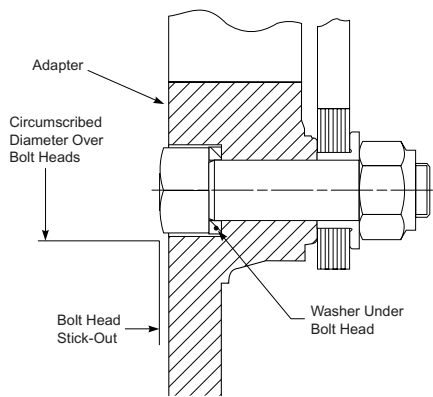

Figure 10 - Bolt assembly into adapter
- 9.7. Mount the flywheel adapter to the disc pack, by inserting four bolts with bolt head washers through the holes in the back side of the flywheel adapter, as shown in Figure 10. Seat the bolt heads and washers in the slots provided and then install the bolts through the remaining four single headed bushings in the disc pack.
ATTENTION! On sizes 225 through 750 the bolt heads will protrude from the back side of the adapter, as shown in Figure 10. If this interferes with the mounting of the adapter to the flywheel, contact Rexnord for bolts with modified bolt heads. Table 5 shows the amount of bolt head protrusion as well as the circumscribed diameter over the bolt heads.